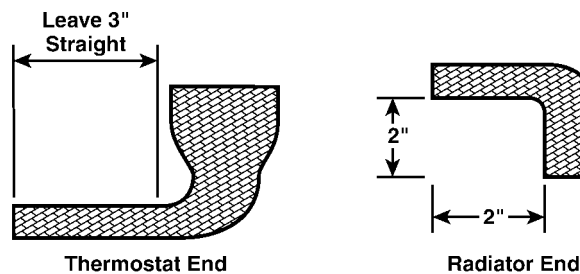

FIGURE 3. RADIATOR HOSE
- STEP 23:** Loosen and remove the upper radiator hose. Measure and remove the required amount off both ends of the radiator hose. **See Figure 3.** Insert the stainless steel tube (supplied) into the modified hoses and clamp hose ends with the supplied clamps.